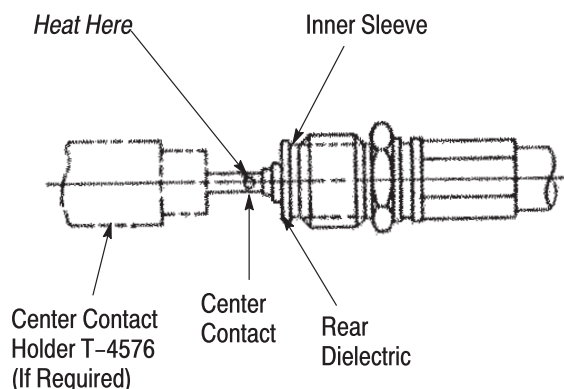

Figure 4
2. Place the center contact in a center contact holder, heat the center contact and and push it over the inner conductor of the cable with the large diameter of the contact resting firmly against the rear dielectric. Refer to Figure 4.